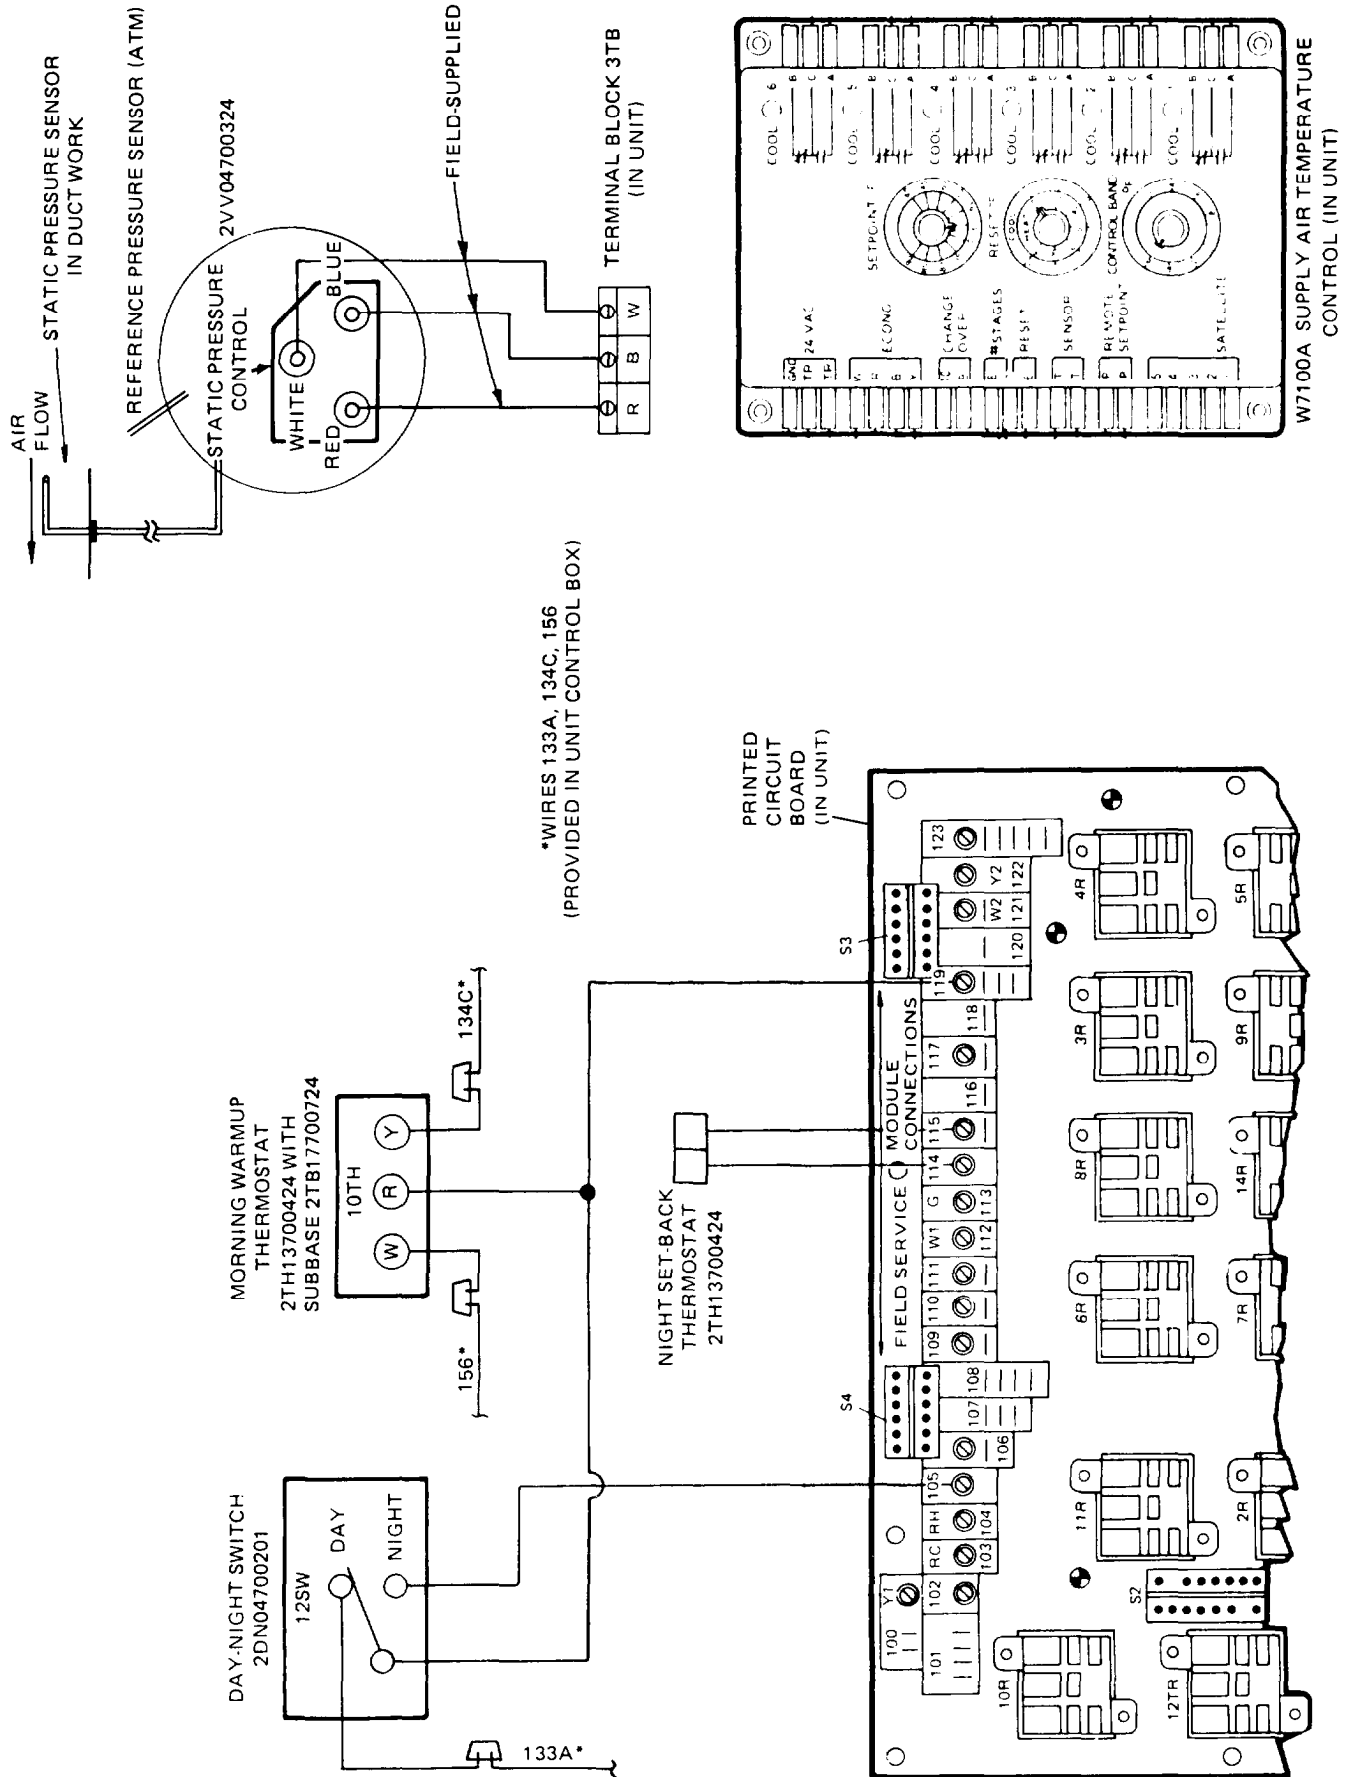

FIG. 9 — CONTROL WIRING AND STATIC PRESSURE CONNECTIONS (UNIT WITH AIR VOLUME DAMPERS)
4. Connect the wires to the terminal block per Fig. 9.
5. Connect the wiring to the terminal block per Fig. 9.
4. Connect the wiring to the terminal block per Fig. 9.